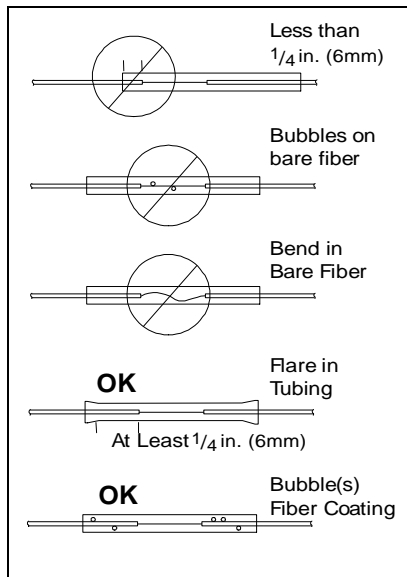

Figure 24. Reinforcing Sleeve Inspection.
4. Open both clamps. Remove the reinforced splice while pulling gently on the fiber to keep it straight. Visually inspect the sleeve. (See Figure 24)